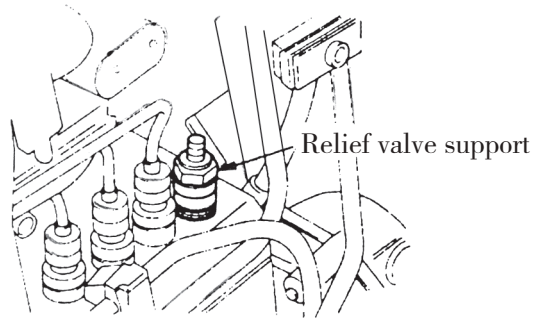
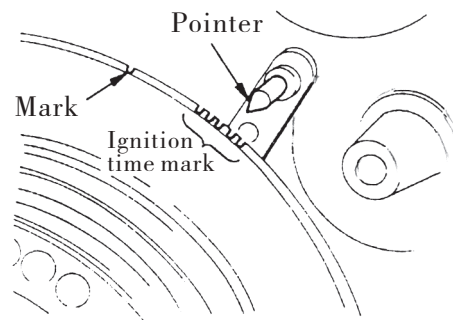

Fig. 1.16
Fig. 1.17
(3) Loosen the oil injection pipe of the first cylinder; dismantle the spring of dump valve bracket and the valve. Mount the dump valve bracket on the oil injection pump. See Fig.1.16.
(4) While the fuel is compressed and delivered by oil supply pump, turn slowly the crankshaft clockwise as shown in Fig.1.16 and stop turning it when the oil level of dump valve base raises to the position it stops. See Fig. 1.17 to confirm the marks of the needle.